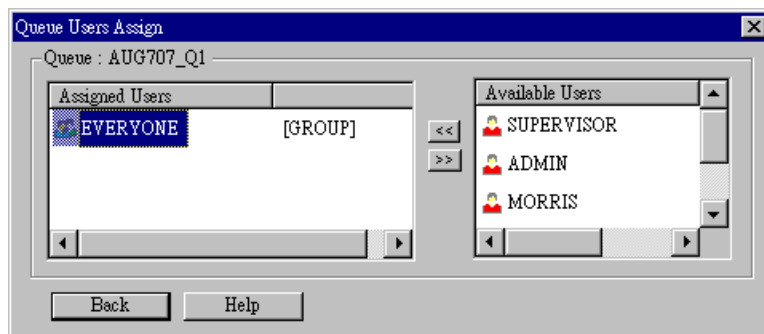

Figure 17: Assign Users to Queue (Bindery)
- User** Assign Users to the NetWare Print Server object. (Optional) These users will then be able to view the status of the NetWare Print Server object. The screen is identical to *Figure 17: Assign Users to Queue (Bindery)*.